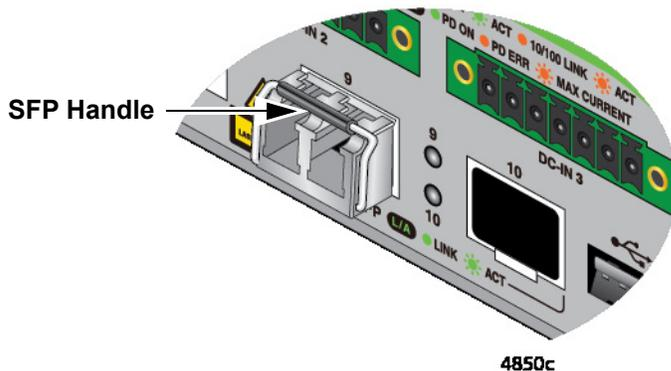

Figure 60. Positioning the SFP Handle in the Upright Position
5. Verify the position of the handle on the transceiver. the handle should be in the upright position, as shown in Figure 60.